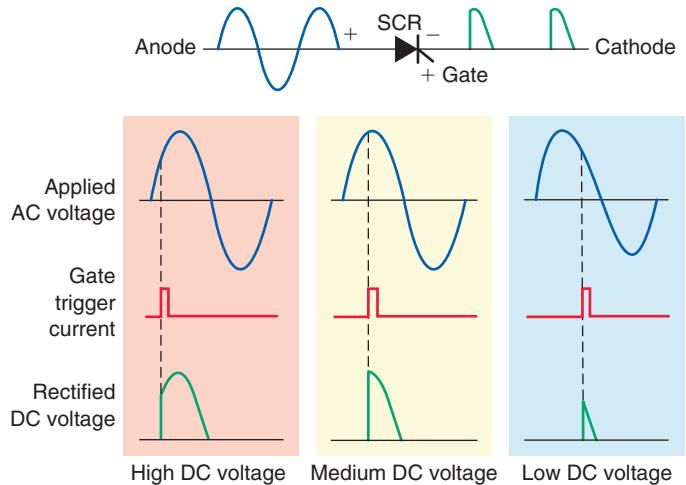

Figure 10-38 SCR conversion from AC to variable DC.
- The firing angle, or point in time where the SCR is triggered into conduction, is synchronized with the phase rotation of the AC power source, as illustrated in Figure 10-38.